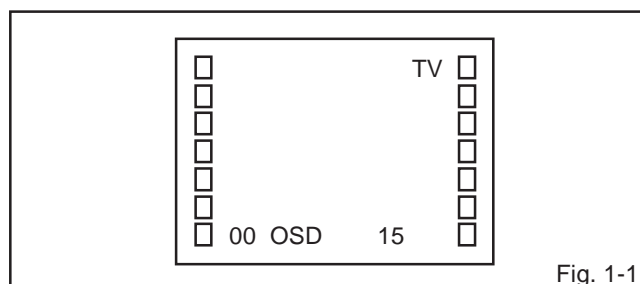

Fig. 1-1
2. Press the VOL. DOWN button on the set and the Channel button (9) on the remote control simultaneously to appear the adjustment mode on the screen as shown in Fig. 1-1.
7. Activate the adjustment mode display of Fig. 1-1 and press the channel button (03) on the remote control to select "VIF VCO".
3. Activate the adjustment mode display of **Fig. 1-1** and press the channel button **(02)** on the remote control to select "RF AGC".
4. Activate the adjustment mode display of **Fig. 1-1** and press the channel button **(01)** on the remote control to select "CUT OFF".
4. Activate the adjustment mode display of **Fig. 1-1** and press the channel button **(10)** on the remote control to select "R.BIAS".
2. Activate the adjustment mode display of **Fig. 1-1** and press the channel button **(05)** on the remote control to select "H PHASE".
2. Activate the adjustment mode display of **Fig. 1-1** and press the channel button **(07)** on the remote control to select "V SHIFT".
2. Activate the adjustment mode display of **Fig. 1-1** and press the channel button **(06)** on the remote control to select "V SIZE".
2. Activate the adjustment mode display of **Fig. 1-1** and press the channel button **(13)** on the remote control to select "BRIGHTNESS".
1. Activate the adjustment mode display of **Fig. 1-1** and press the channel button **(14)** on the remote control to select "CONTRAST".
4. Activate the adjustment mode display of **Fig. 1-1** and press the channel button **(14)** on the remote control.